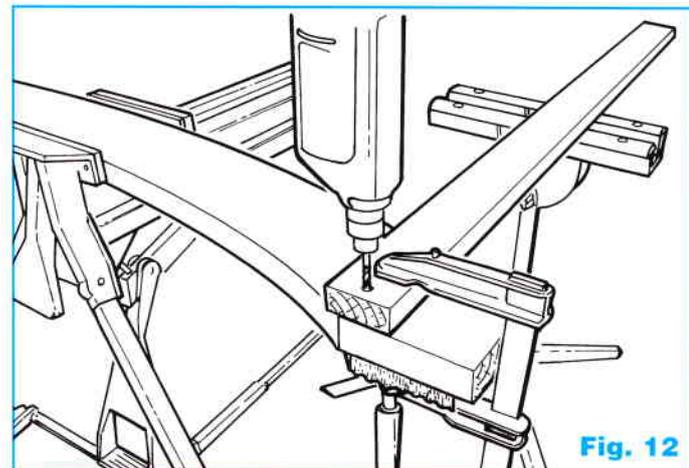

Fig. 12
Drill two 8mm holes 20mm & 130mm up from the bottom of each post (D). Clamp the handrail support to the outside of the line on your arch, ensuring it is flush with the base of the arch and level with your line. Use the two holes as a template to drill through the arch **Fig. 12** As you will be drilling through three sections of material you may need to drill as far as your bit will allow, then remove the post to complete the drilling.